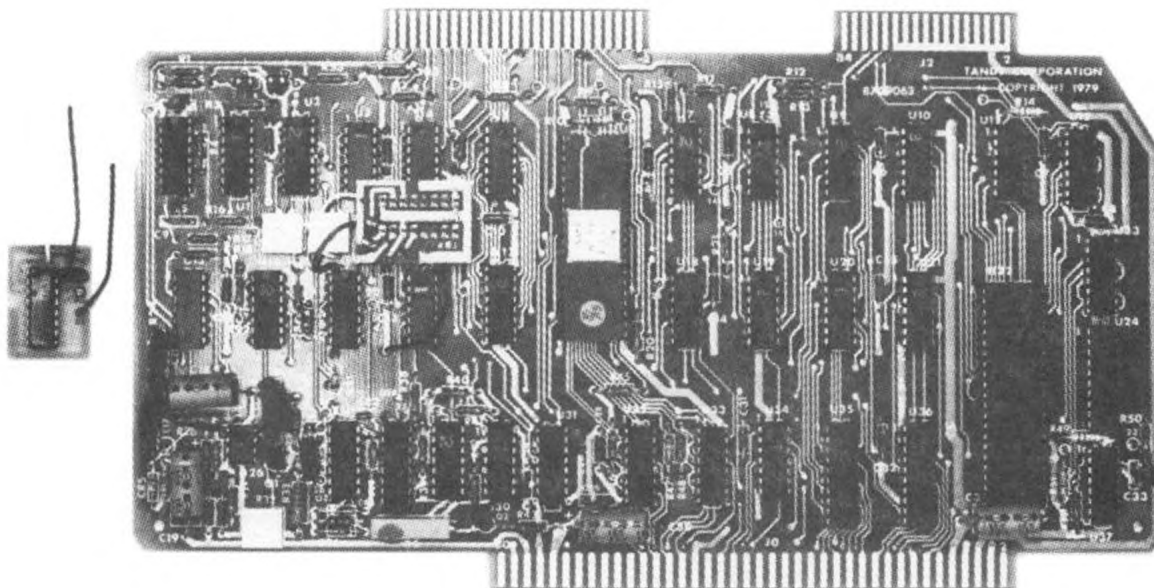

Figure 1
5. Reflow solder in unused PCB pads while inserting tinned satellite module leads as shown in Figure 1.